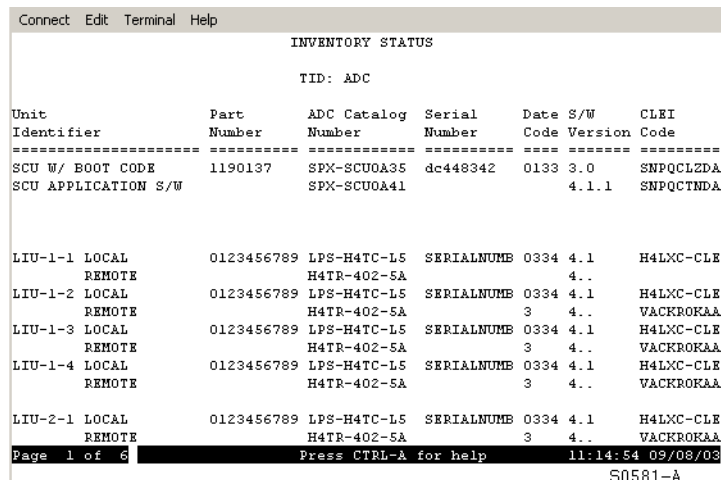

Figure 16. Inventory Status Screen
- 2 From the System Maintenance menu, select **5. Display Inventory**. The Inventory Status screen appears as shown in Figure 16.